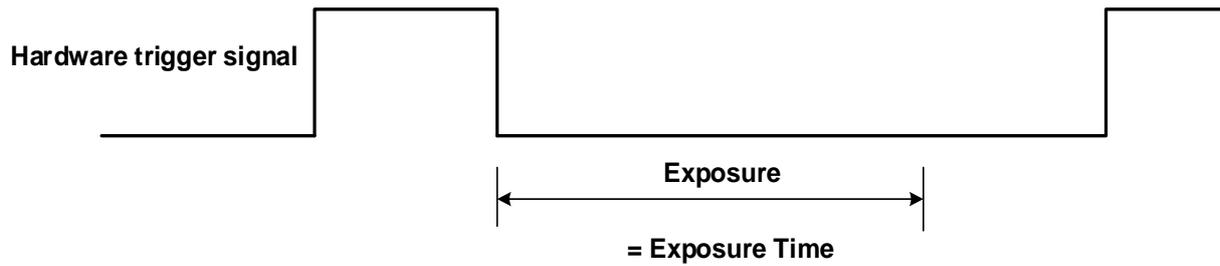

Figure 8-21 The sequence diagram in falling edge trigger of Timed exposure mode
- If falling edge triggering is enabled, exposure starts when the trigger signal falls and continue until the exposure time has expired, as shown in Figure 8-21